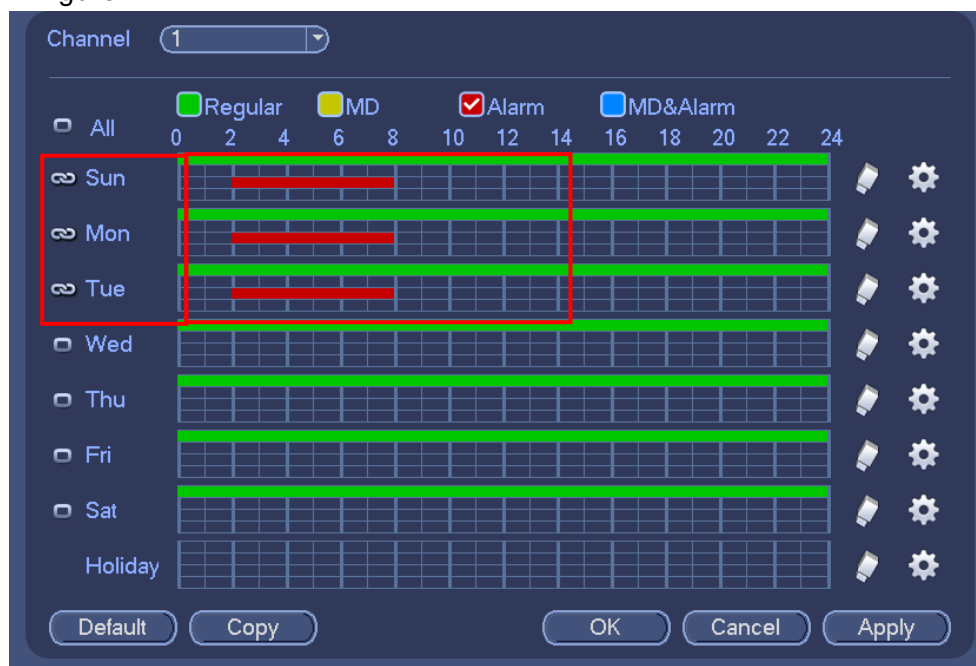

Figure 4-127
- ✧ Please draw manually to set record period. There are six periods in one day. See Figure 4-127.